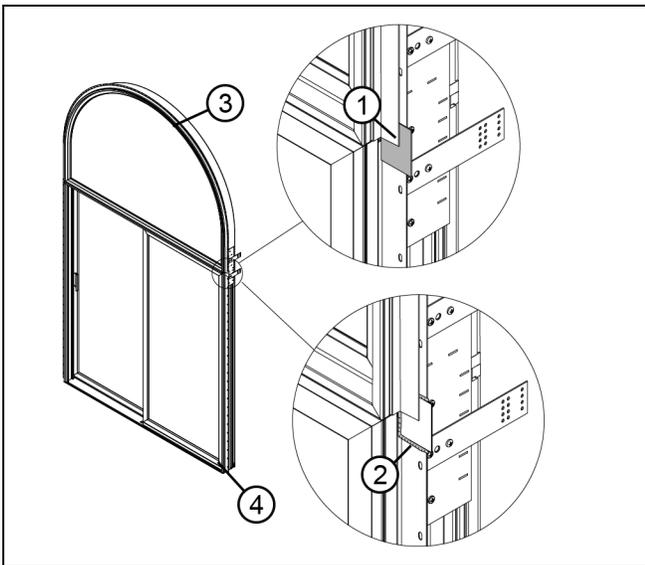

Figure 46
12. Apply nailing fin connectors to exterior as shown in Figure 46.